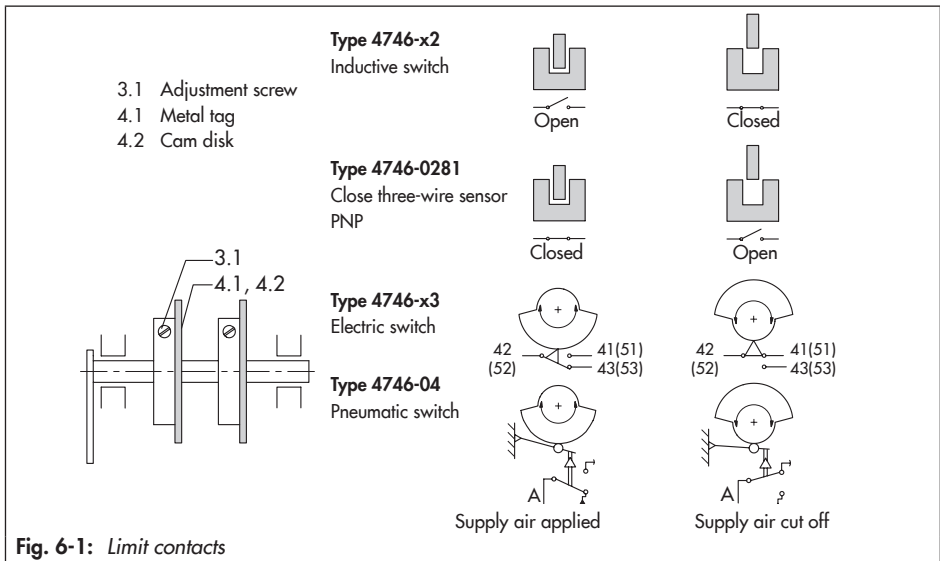

Fig. 6-1: Limit contacts
- Move the valve to the switching position and turn the adjustment screw (3.1, Fig. 6-1) until the metal tag (4.1, Fig. 6-1) reaches the switching point.